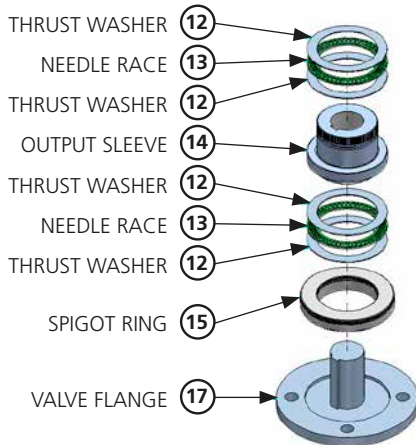
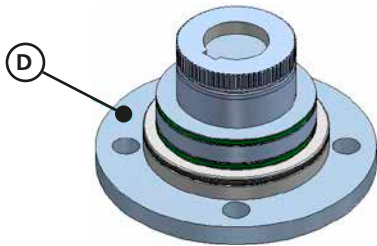

Fig. 10 - Valve Stem Assembly
Fig. 11 - Valve Stem (Assembled)
In addition to the points in Section 7.3.1, it is recommended that the machined output sleeve assembly is assembled onto the valve stem first and then the gearbox lowered onto the output sleeve assembly. See Fig. 10 and Fig. 11 for assembly details.
Fit the machined output sleeve (14), thrust bearings (12 & 13) and baseplate spigot ring (15) on the valve shaft as shown in the Fig. 10. Bearings should be lubricated with the appropriate grease (see Table 4). Grease the bearings, output sleeve and valve stem. Note that the spigot ring has an internal and external seal that should also be greased.